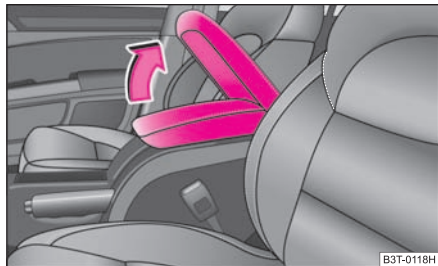

Fig. 99 Armrest: Storage compartment
- Open the lid of the armrest in the direction of arrow ⇒ fig. 99.